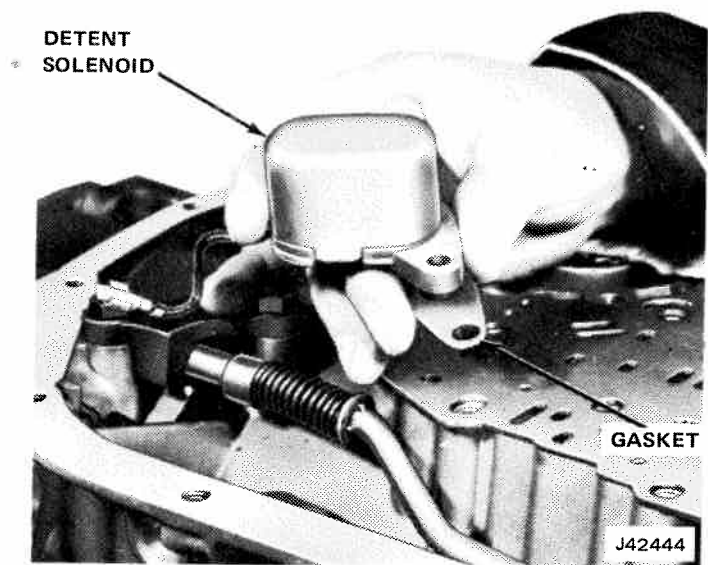

Fig. 7-14 Detent Solenoid and Gasket Removal and Installation
(1) Remove solenoid attaching screws, detent solenoid assembly, and gasket from transmission case. Discard gasket (fig. 7-14).